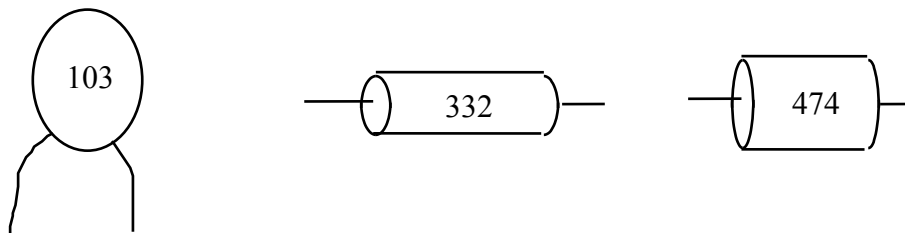

Figure 1.2 Number Coded Capacitors
2. There is a three-digit number code for labeling capacitors. The label 224 means 22 with 4 zeros, interpreted as a capacitance value in picofarads. ($224 = 220,000 \text{ pF} = 220 \text{ nF}$.) You also will see labels like $22 \mu\text{F}$, 22 uF , 22 MF , and 22 MFD , all of which mean 22 microfarads. Another notation is 220 uuF , which means 220 picofarads (uu = micro micro). Write down the values of the capacitors shown in Figure 1.2. Use the most appropriate unit: pF, nF, or μF .